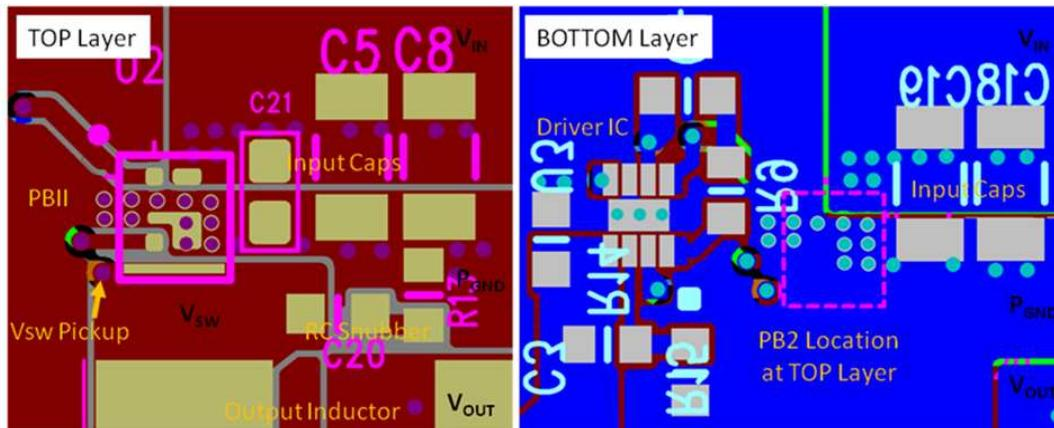

Figure 29. Recommended PCB Layout (Top Down View)
- The placement of the input capacitors relative to VIN and PGND pins of CSD87381P device should have the highest priority during the component placement routine. It is critical to minimize these node lengths. As such, ceramic input capacitors need to be placed as close as possible to the VIN and PGND pins (see Figure 29). The example in Figure 29 uses 1 x 10 nF 0402 25 V and 4 x 10 μF 1206 25 V ceramic capacitors (TDK part number C3216X5R1C106KT or equivalent). Notice there are ceramic capacitors on both sides of the board with an appropriate amount of vias interconnecting both layers. In terms of priority of placement next to the power stage, C21, C5, C8, C19, and C18 should follow in order.
- The switching node of the output inductor should be placed relatively close to the Power Block II CSD87381P VSW pins. Minimizing the VSW node length between these two components will reduce the PCB conduction losses and actually reduce the switching noise level. See Figure 29.⁽¹⁾
- Use the smallest drill size allowed in your design. The example in Figure 29 uses vias with a 10 mil drill hole and a 16 mil capture pad.